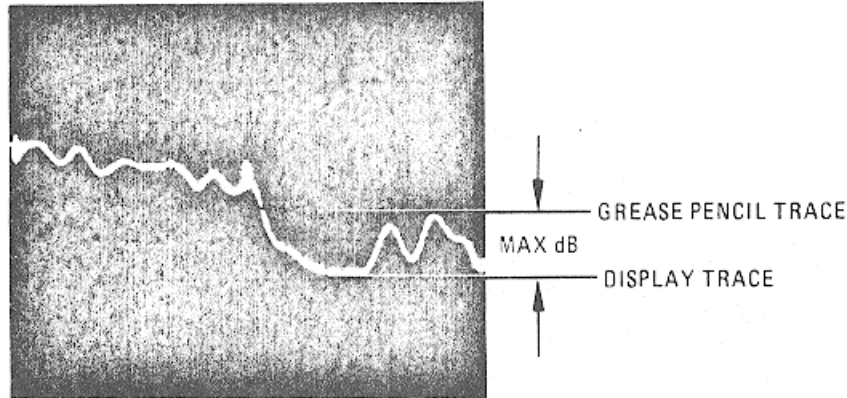

Figure 10. Reflection Frequency Response Magnitude
- (3) Measure the maximum difference between the grease pencil trace and the display trace (Figure 10). This measured value should be 1.5 dB for the entire 0.5 to 1300 MHz frequency range.